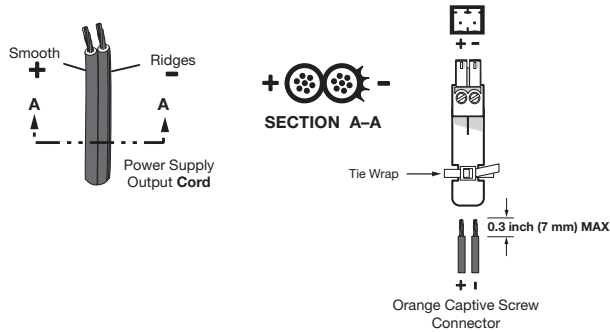

Figure 5. Power Connector Wiring
- ⑧ **Power connector** — Plug the external 12 VDC power supply into this two-pole captive screw connector. The power supply is included with the unit. Figure 5 shows how to wire the connector.